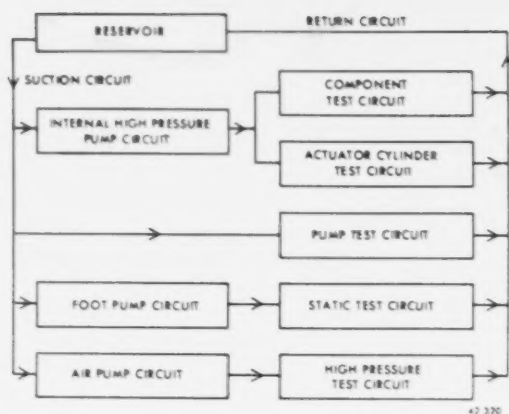

Figure 6-2. Major test circuits.
Major Test Circuits. The HCT-6 test stand has five major test circuits that are supplied with fluid flow from three internally installed pumps. The five test circuits, as shown in figure 6-2, are the component test circuit, actuator cylinder test circuit, pump test circuit, static test circuit, and high-pressure test circuit. Certain circuits were designed to check out specific components, while other circuits can be used to check out a variety of components. The tests conducted are classified as static (not moving) and dynamic (moving).
Suction Supply Circuit. The suction supply circuit provides the necessary fluid to the five test circuits as shown in figure 6-2. This circuit stores hydraulic fluid in the reservoir (1) shown in the left-hand center portion of foldout 2. A reservoir fluid level sight gauge (3) is found on the front of the reservoir. The reservoir is also equipped with heaters that will hold the fluid temperatures between 70° F and 170° F. You set the reservoir heater control switch (94) to the temperature setting you want. The temperature will be shown on the temperature gauge (95). These heaters raise the temperature from 60° F to 100° F in 15 minutes with 25 gallons of fluid in the reservoir. A reservoir level switch (110) is installed in the reservoir. This switch turns off the heaters if the fluid drops below the $\frac{3}{4}$ level. A reservoir heater switch (111) on the control panel allows for manual operation of the heaters. The reservoir has a rated capacity of 25 gallons of fluid and can be pressurized from 0 to 125 psi.